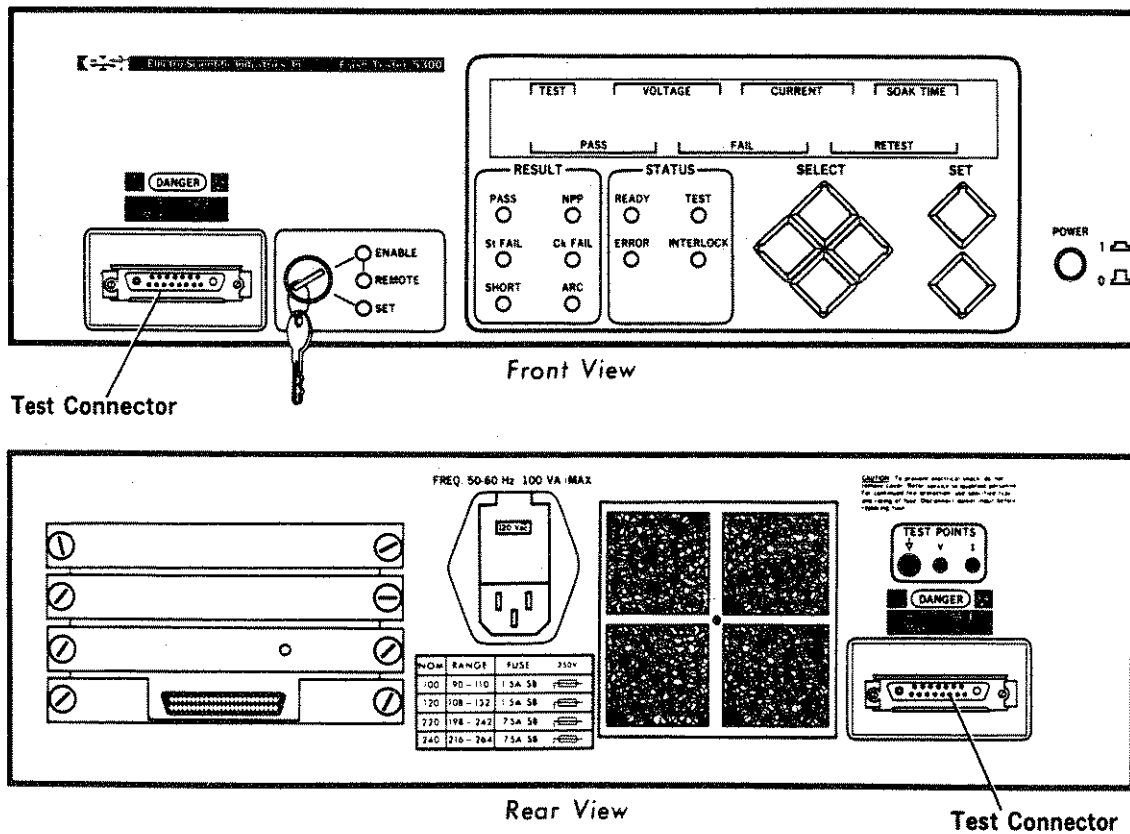

Figure 7-4. Test Connector Locations
- STEP 2. Verify that there are no external connections made to the test connector that is located on either the front or rear of the instrument. Refer to Figure 7-4 for the two locations of this connector.